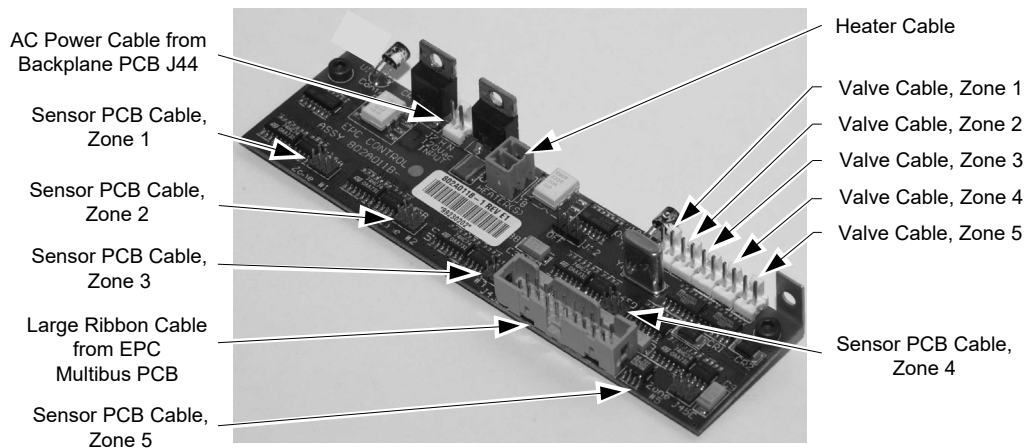

Fig. 6.9. EPC Control PCB Cabling
4. Unplug the large ribbon cable from the Control PCB and fold it back to your left and out of the way (see Figure 6.9).
4. Unplug the large ribbon cable from the Control PCB and fold it back to the left and out of the way (see Figure 6.9).
5. Locate the Sensor PCBs for Zones 1 and 2 (see Figure 6.9).